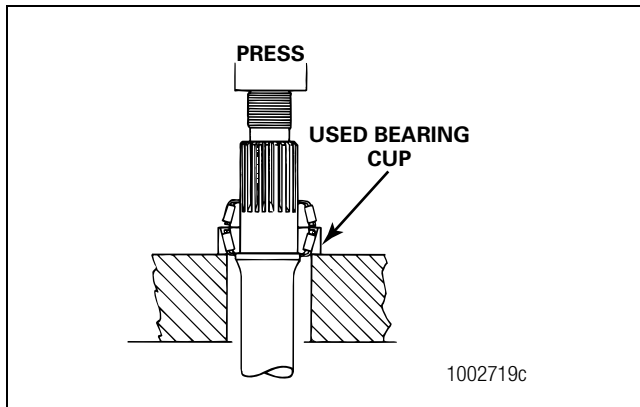

Figure 3.15
2. Place the thru-shaft into a press. Figure 3.15. The used bearing cup supports the thru-shaft.